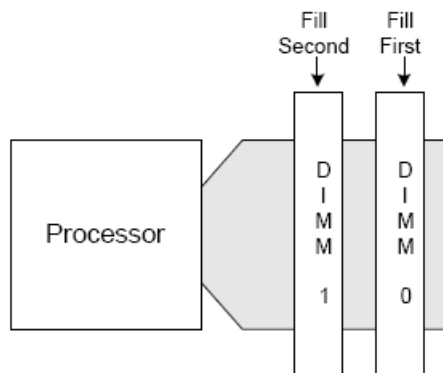

Figure 16. Memory Channel Population
6. Position the DIMM above the socket. Align the two small notches in the bottom edge of the DIMM with the keys in the socket (letter “B” in Figure 16).
7. Insert the bottom edge of the DIMM into the socket (letter “C” in Figure 16).
8. When the DIMM is inserted, push down on the top edge of the DIMM until the retaining clips snap into place (letter “D” in Figure 16). Make sure the clips are firmly in place (letter “E” in Figure 16).